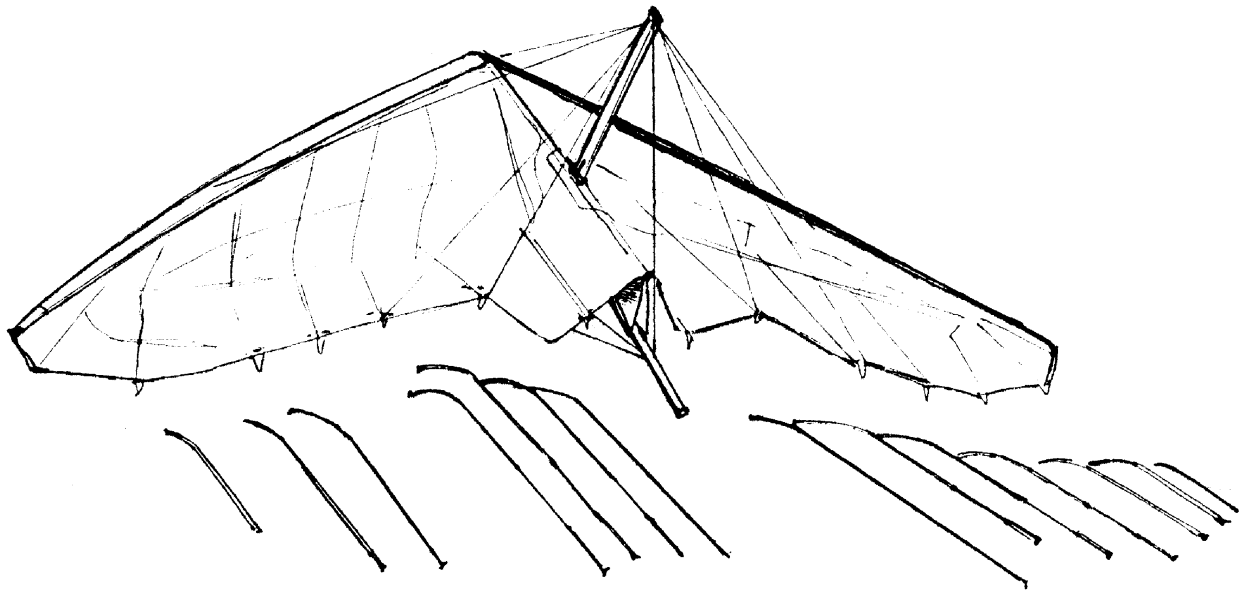

Fig.24
2.2.4. Remove the bag and the velcro straps. Spread the wings so, that the sail is little sagged and the glider is resting on the consoles and on the keel tube (Fig.24).
2.2.6. Remove the battens from the bag. Lay them on the ground for each wing separately in decreasing order of length (see fig.24). Insert battens into the battens pockets.